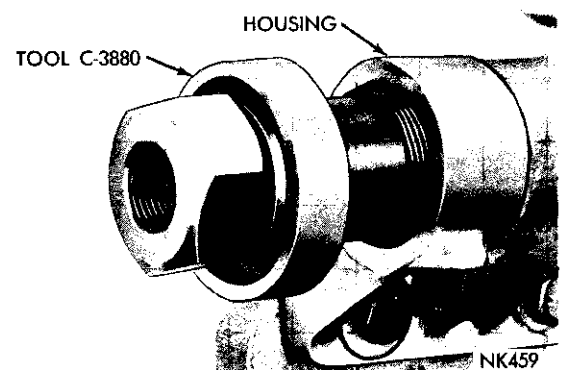
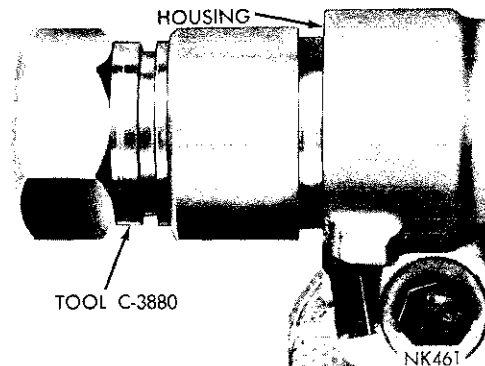

Fig. 13—Removing Cross Shaft Oil Seal
Fig. 14—Installing Cross Shaft Oil Seal
(1) Slide the threaded adapter over the end of the cross shaft and install the nut portion of the tool on the shaft (Fig. 13). Maintain pressure on the adapter with the tool nut while screwing the adapter into the seal until it grips the oil seal firmly. Place the two half rings and retainer over both portions of the tool. Turn the tool nut counterclockwise to withdraw the seal from the housing.
(2) Place the seal onto the splines on the cross shaft with the lip of the seal facing the gear housing.
(3) Place the installing adapter SP-3052 from Tool C-3880 against the seal. Press the seal in until a gap of $\frac{1}{4}$ inch exists between the adapter and the housings (Fig. 14).
(4) Place the nut down from Tool Set C-3880 on the cross shaft, and turn it down against the adapter, pressing the seal into the housing until the step on the adapter contacts the end of the housing.